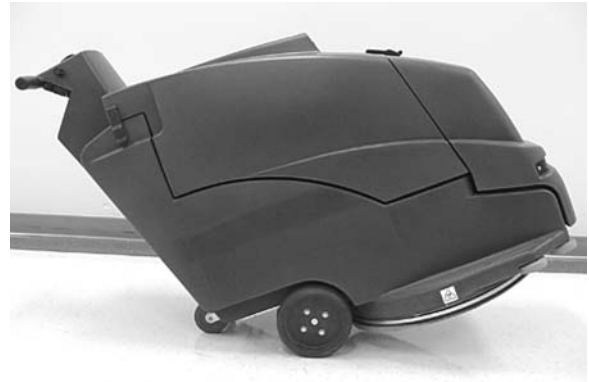

FIG. 4
- Turn the main power switch off and tilt the machine back on its rear wheels (Figure 4).